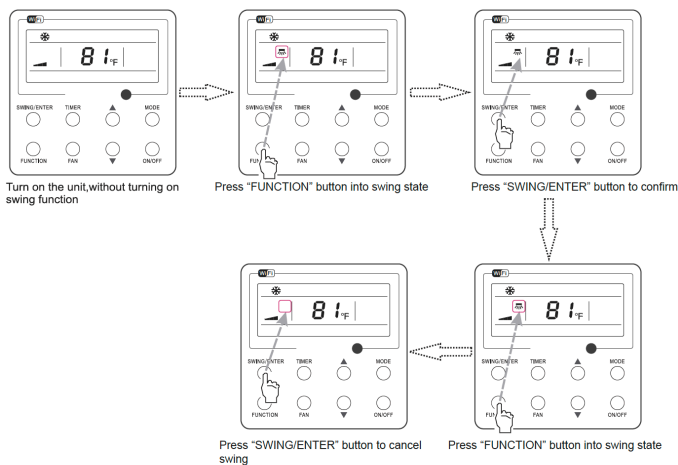

Fig. 9 Swing Setting
- Swing setting is shown as Fig.9.